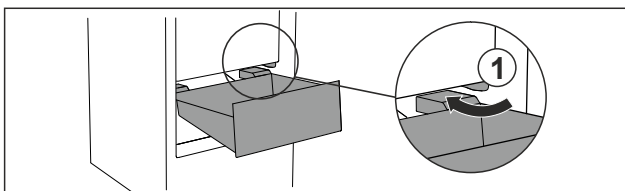

Fig. 67
- ▶ Guide drawer in at an angle around the stoppers Fig. 67 (1).